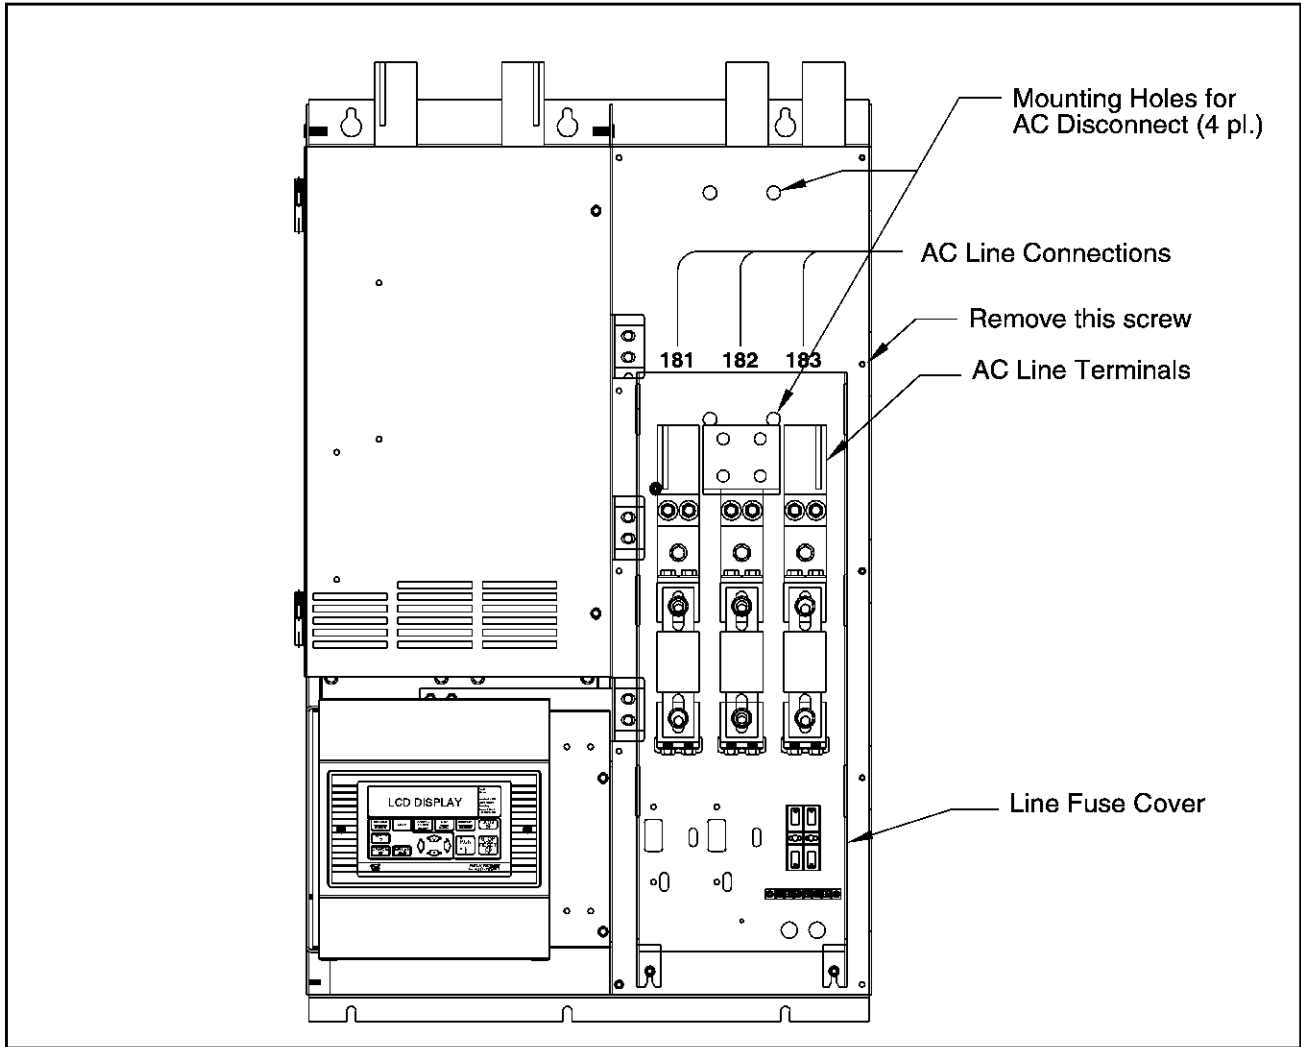
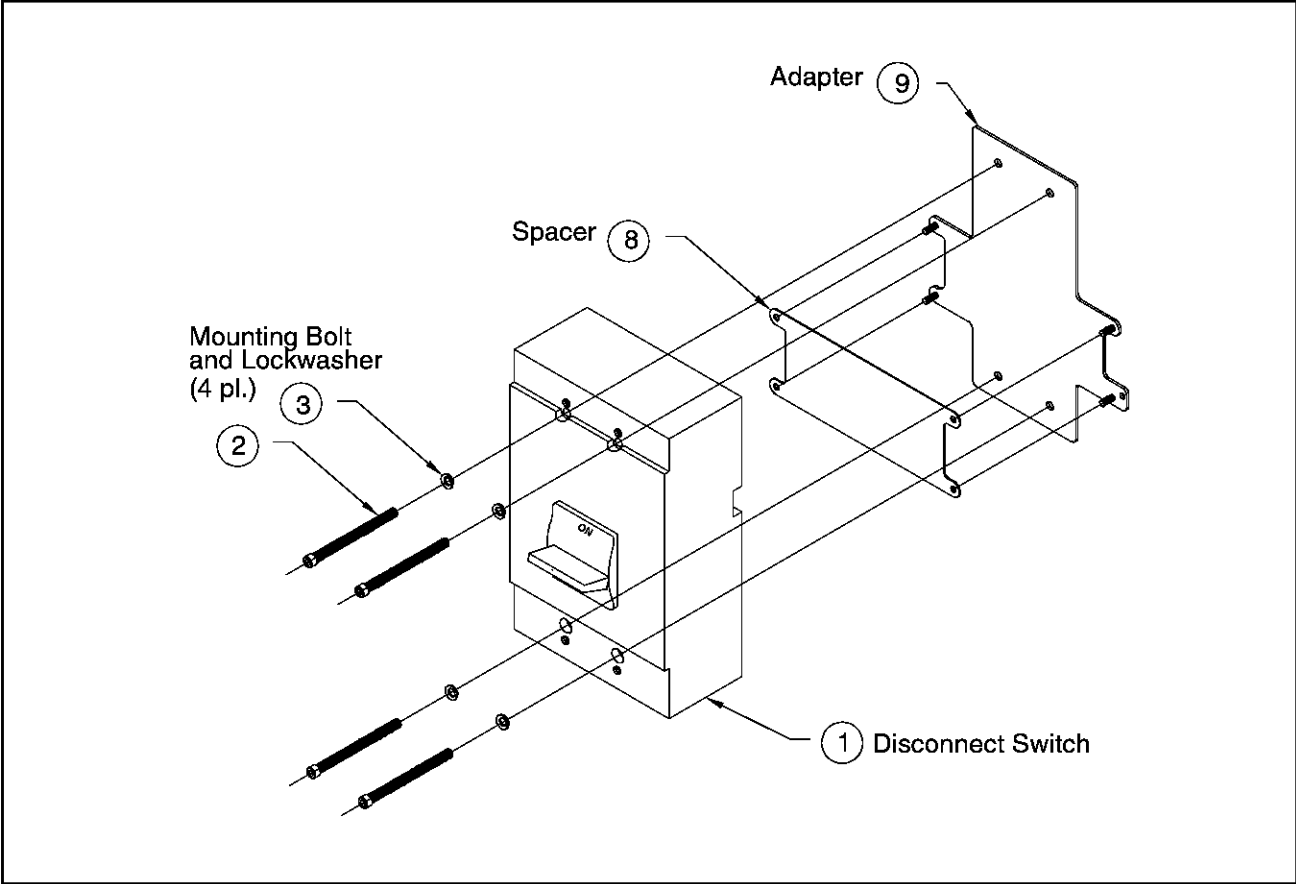

Figure 1 – Drive without an AC Disconnect
Figure 2 – Orientation of Spacer and Adapter behind the AC Disconnect
Tables 2 and 3 list the contents of the AC Line Disconnect kits. Note that the item numbers refer to the circled numbers in figures 2, 3, and 4.
Refer to figures 1 through 4 while performing this installation. The numbers in the circles on the figures refer to the item numbers listed in tables 2 and 3. These item numbers are also referenced in the installation procedure.
- Step 3. Remove the clear plastic line fuse cover. This is held in place by tabs inserted in slots and by two screws on the bottom of the auxiliary chassis panel. See figure 1.
- Step 4. If drive power has already been installed, disconnect the incoming power lines from the drive by removing the nuts that fasten these lines to AC line terminals 181, 182, and 183 (see figure 1). Disconnect the lines (cables). Set the hardware aside for use later.
- Step 7. Ten screws fasten the red insulating mounting panel to the metal frame of the drive. Remove the second from the top right screw illustrated in figure 1. Discard this screw. It will be replaced by an M5 x 20 mm Phillips head screw and an M5 ext. tooth lock washer [items 10 and 11] later. Stand the disconnect switch [Item 1] so that it faces you as it will after it is mounted (see figure 2).
- Step 9. With the front of the disconnect facing you, insert one M8 x 130 mm bolt with lockwasher into one of the disconnect's upper bolt holes. Then insert another bolt with lockwasher into the bottom bolt hole diagonally opposite the upper bolt hole. See figure 2.
- Step 10. Place the spacer [Item 8] over the studs on the adapter plate [Item 9]. Orient this adapter so that the wide tab with the hole is on the right. As shown, the studs on this adapter must face the front of the disconnect. The holes on the mounting plate go over the ends of the bolts inserted in step 9. Refer to figure 2 for the correct orientation.
- Step 12. While holding the adapter plate [Item 9] and the spacer [Item 8] in place, pick up the disconnect and position it over the bolt holes on the drive's mounting panel. See figures 2 and 3.